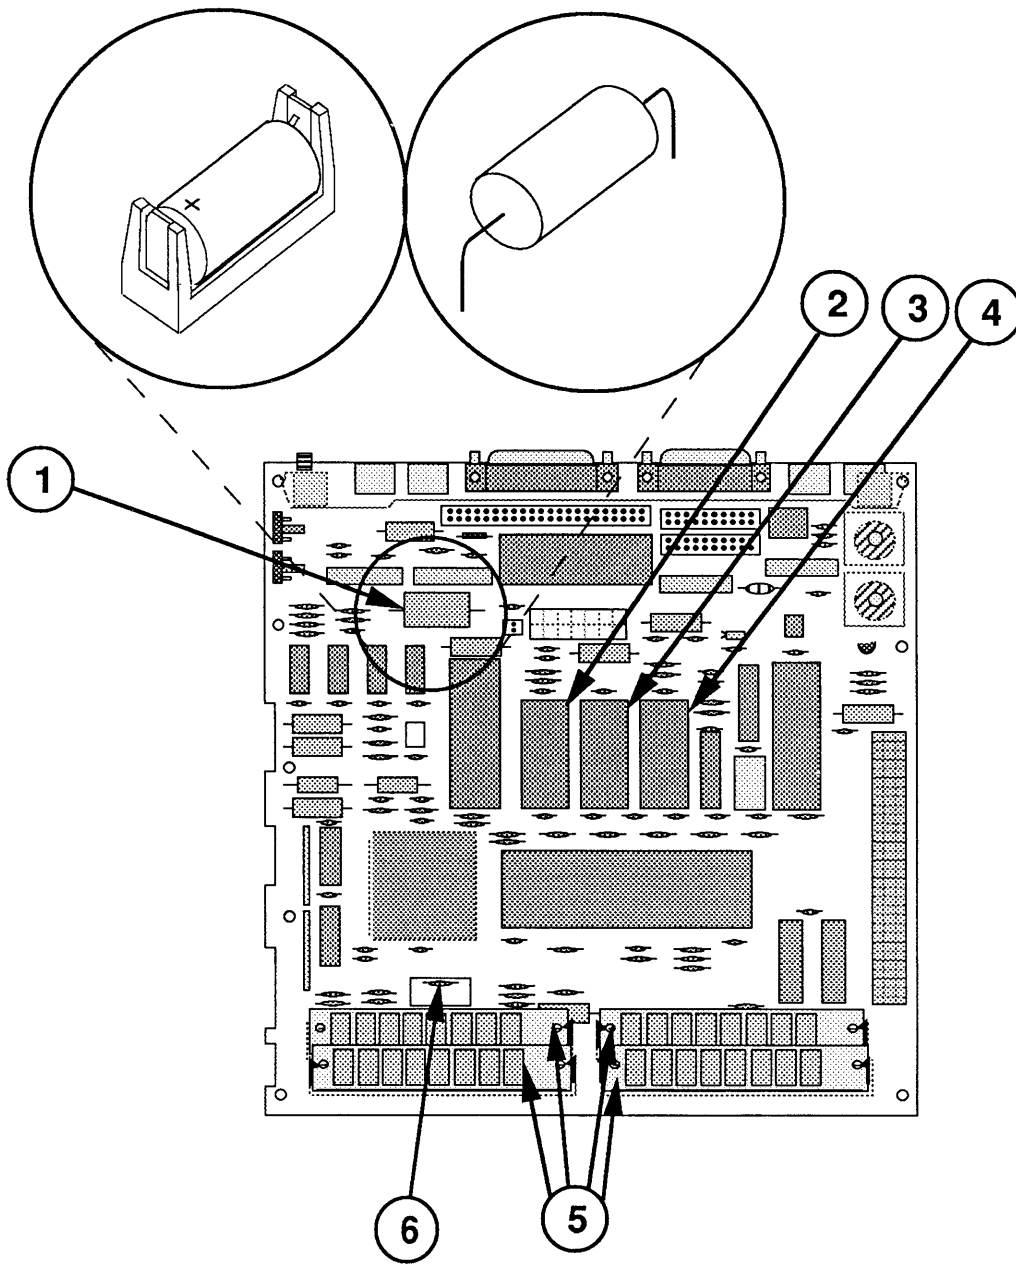

FIGURE 5
- IPL.11 Logic Board—Macintosh SE (Figure 5)
□ LOGIC BOARD – MACINTOSH SE (Figure 5)